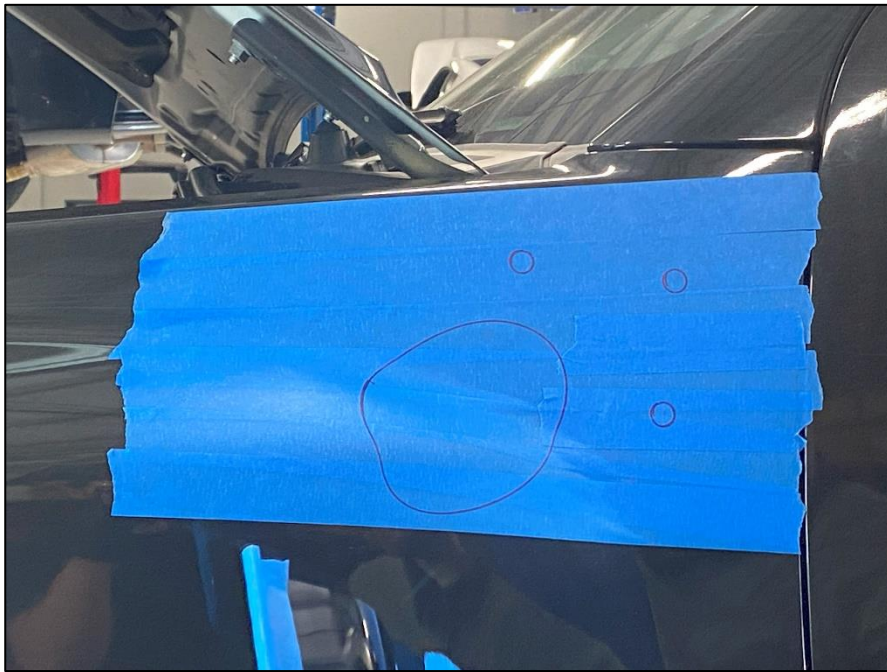

Figure 7
10. Remove the Locating Template, revealing lines to cut. *Figure 7.*